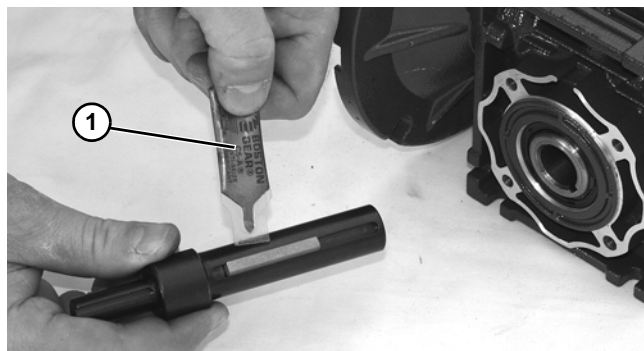

Figure 24
6. Apply anti-seize (**Figure 24, item 1**) to shaft.